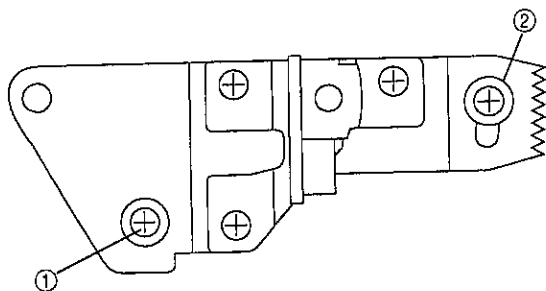

Figure 4-36.
Finally tighten the screws ① and ②. (First tighten the screw ①, and next the screw ②.) (Figure 4-36①②)